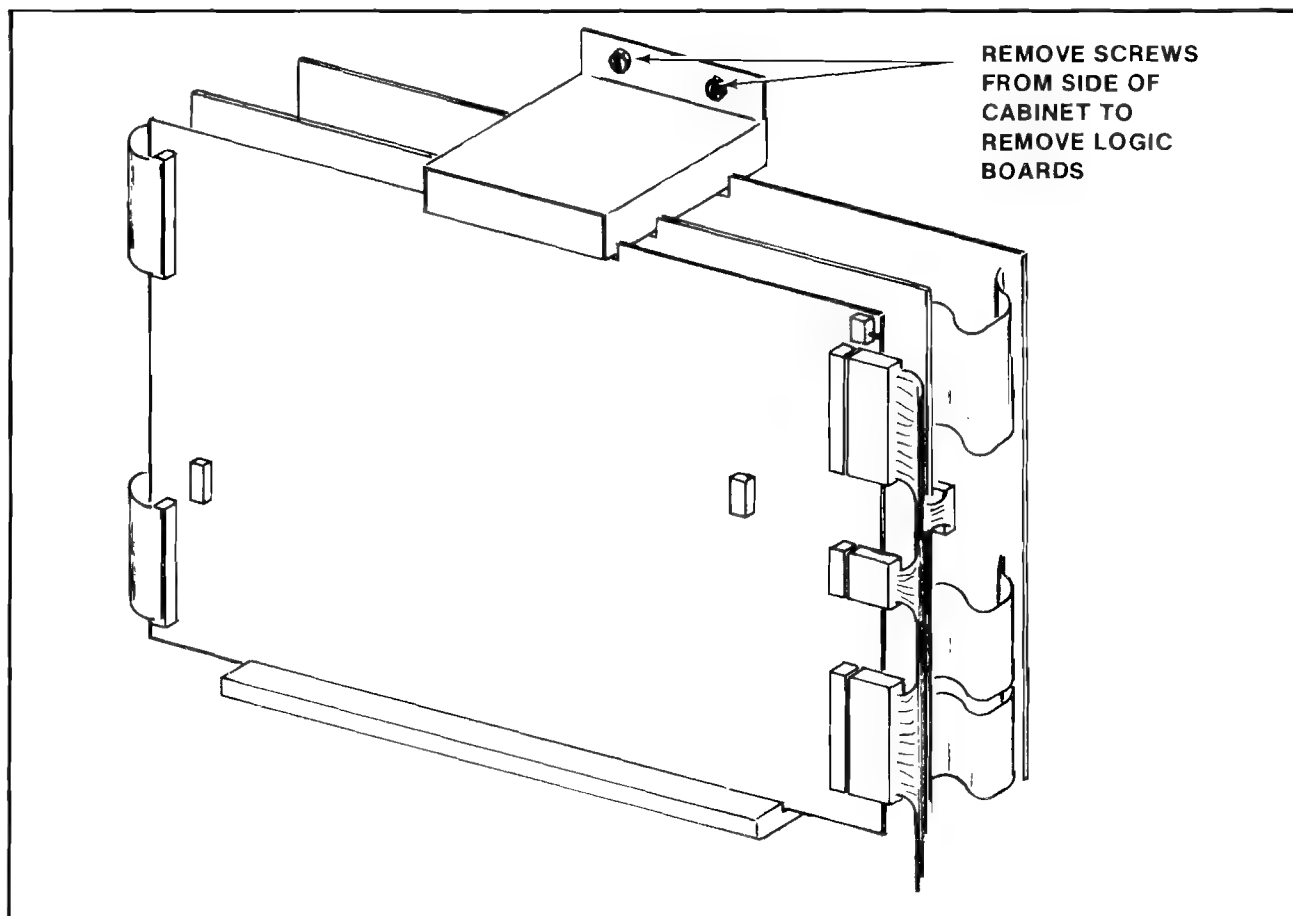

Figure 3-13 Removing P.C.B.'s from Card Rack
- ☐ To remove the P.C. boards from the card rack. See Figure 3-13.